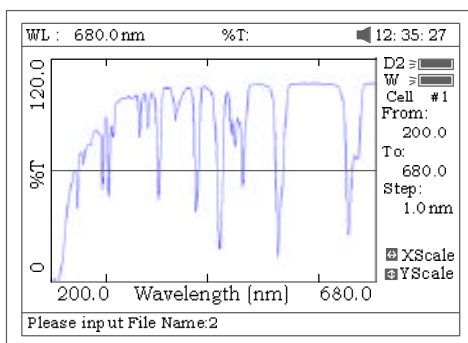

Fig 15
- ✧ Name the curve by pressing the numeric keypad (Fig 15), press the key **【ENTER】** to confirm.